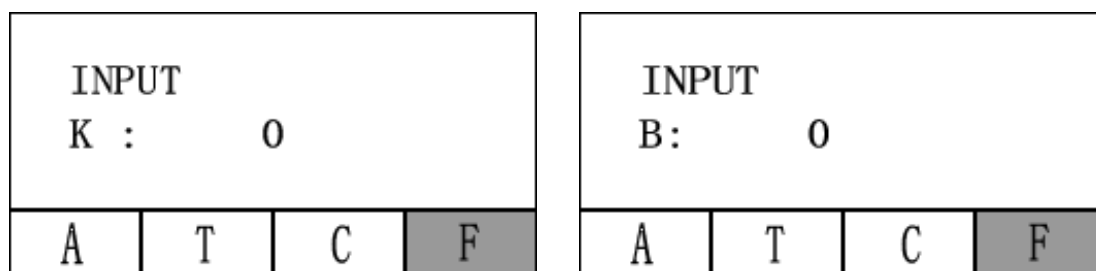

Fig. 4-9
Step 3, Press SET, input the Value K, B, ENTER to confirm. (Fig. 4-9)